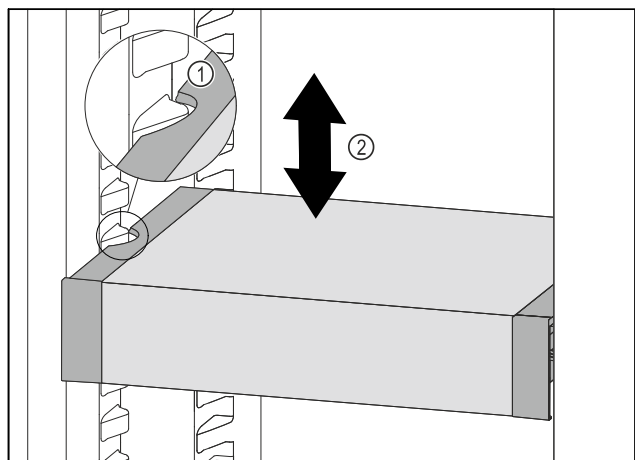

Fig. 55
- ▶ Pull VarioSafe forwards until the recesses in the side of the VarioSafe are at the level of the support rib in the refrigerator compartment. Fig. 55 (1)
- ▶ Move VarioSafe up or down in the refrigerator compartment until the desired height is reached. Fig. 55 (2)